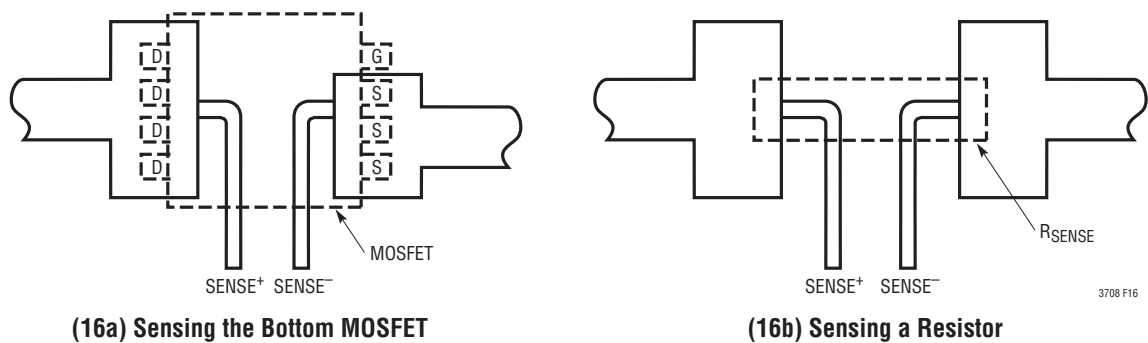

Figure 16. Kelvin Sensing
- Run $SENSE+$ and $SENSE-$ across the bottom MOSFET (or R_{SENSE} when a separate current sensing resistor is used) with Kelvin connection (Figure 16). Route $SENSE+$ and $SENSE-$ together with minimum PC trace separation. The filter capacitor (when used) between $SENSE+$ and $SENSE-$ should be as close to the LTC3708 as possible.